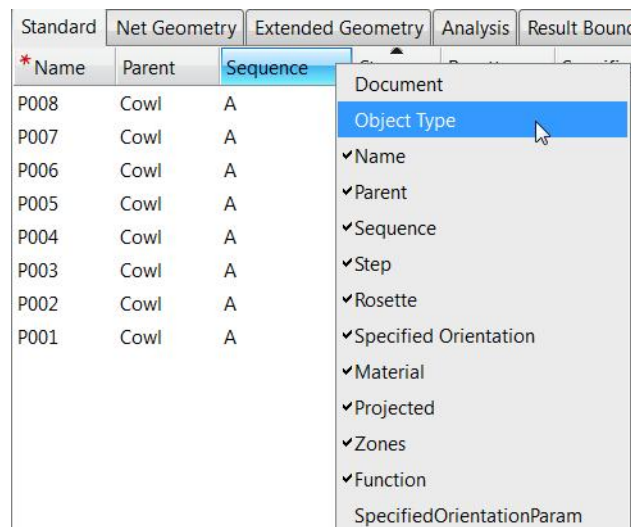

Figure 1–6
- If you want to move a column, click and hold on a column header. Drag it over to a desired location and release as shown in Figure 1–7.